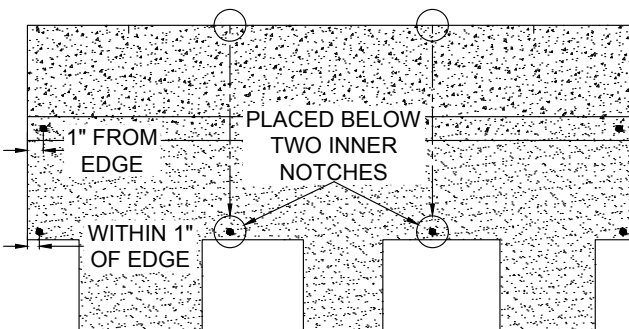

Figure 15 - Windsor®, 6-Nail Alternate Fastening Pattern
- Place two (2) fasteners in the high nailing area, each 1" (25 mm) in from the outside edge.
- Place four (4) fasteners in the low nailing area, approximately 3/4" (19 mm) above the tabs, making sure the fasteners will be covered by shingle tabs in the course above them.
- The two inner notches, or slits*, at the top of the shingle will aid in the alignment of the two middle fasteners while the two outer fasteners are placed 1" (25 mm) in from each edge. (See Figure 15)